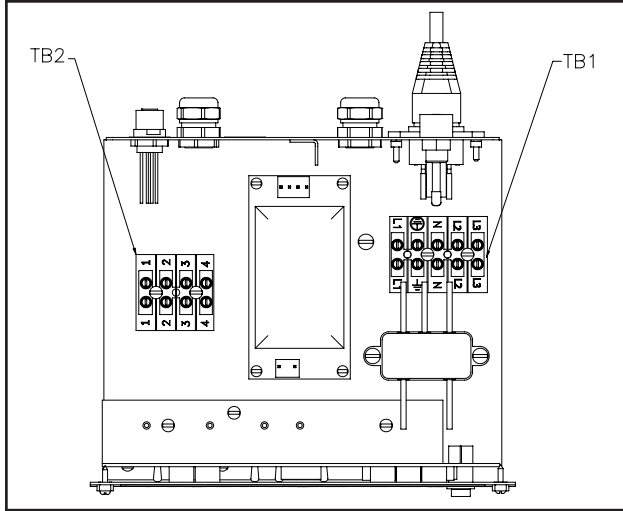
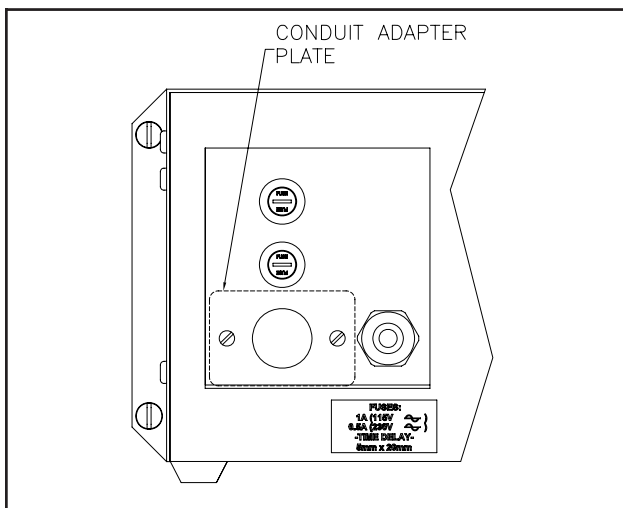

Figure 10a: Location of Terminal Blocks TB1 and TB2
Figure 10c: Installation of Conduit Adapter Plate
- Ensure the AC line cord is unplugged** and remove the AC inlet receptacle wiring from TB1-N, TB1-L1, and TB1-EARTH GROUND (see Figures 10a and 10b).
- Install the Conduit Adapter Plate (supplied) in the hole where the AC inlet receptacle was removed (see Figure 10c).
4. Using a shielded cable for the interlock wiring (supplied by user), route through the interlock connector on the rear of the control unit and terminate to TB1-L2 and TB1-L3 as shown in Figure 10a. The shielded cable must have a minimum rating of 300V and 105°C and its conductors should be 0.8mm²(18 AWG) minimum. Secure the cable to the interlock connector as described in the "I/O Connectors" in this section, so that the shield of the cable is connected to the chassis of the enclosure.
A set of relay contacts for high voltage (CR1) and fault (CR2) conditions is provided at TB2-3 and TB2-1 (see Figure 10a). One end of these relay contacts are connected together and also connected to a source input terminal at TB2-2 (see Figure 10c). When a source voltage is present at TB2-2 and either the high voltage is on or a fault condition occurs, the source voltage will become available at the output end of the corresponding contact. Maximum contact ratings are as follows: